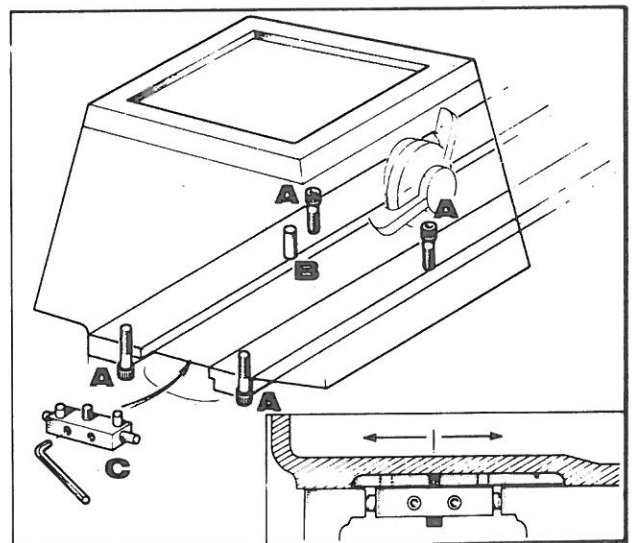

Fig. 18
To correct a difference in readings, slacken the four headstock screws (A), shown in Fig. 18, then adjust the set-over pad (C) to pivot the headstock about the dowel (B). Tighten all securing screws after each adjustment and repeat the test cut and alignment check until the micrometer readings are identical.